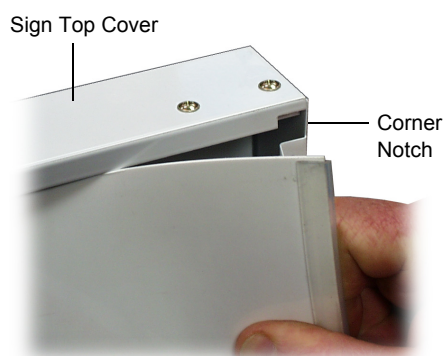

Figure 11: Removing Sign Panel
5. The fluorescent tube can now be accessed for replacement (see figure 11 on page 30).